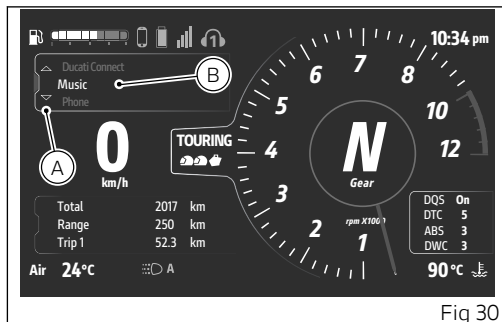

Fig 30
- Select the Interactive Menu (A, Fig 30) by pressing and holding the joystick in position ▲ for a long time.
- Use the joystick ▲ ▼ to select "Music" (B, Fig 30) and press ENTER.